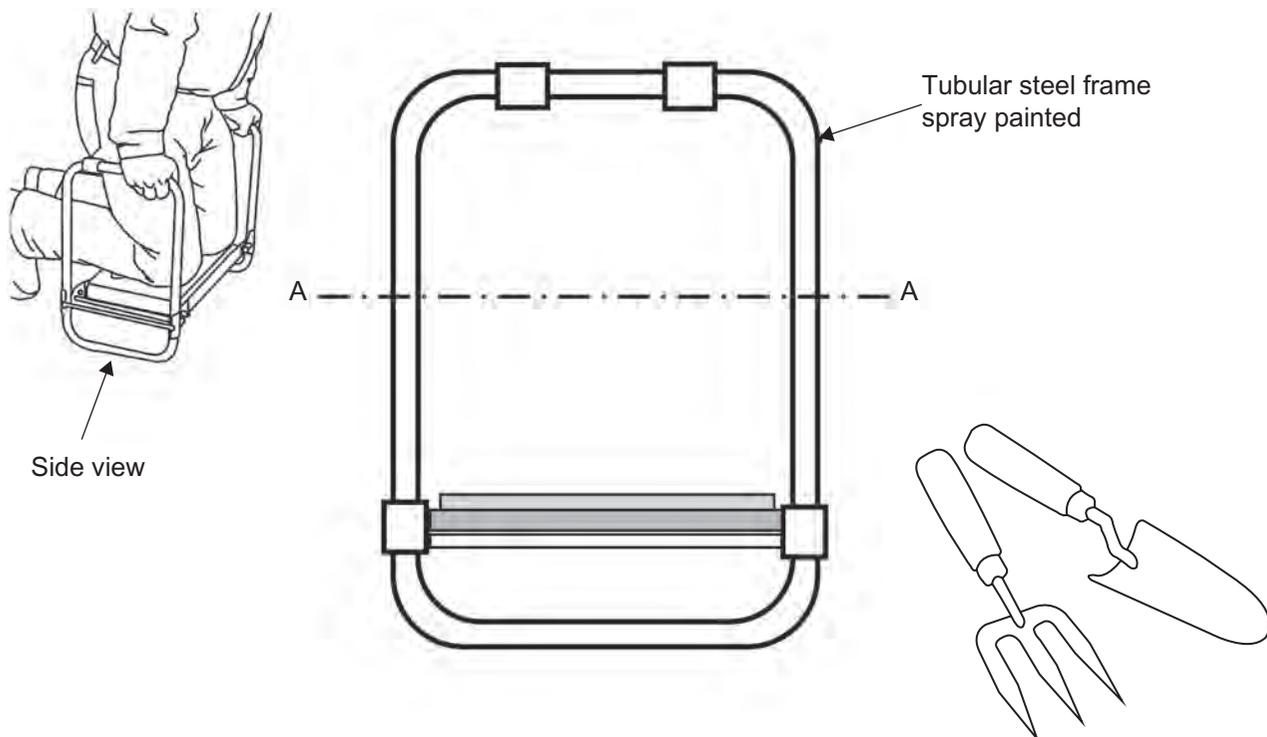

Fig. 6(g)
- (f) CAD, CAM and other ICT systems are widely used in the design and manufacture of many products including the garden kneeler shown in **Fig. 6**.
Explain the use of **two** other ICT systems which could be used in the design and manufacture of the garden kneeler shown in **Fig. 6** (no reference should be made to CAD or CAM systems in your answer). [4]
- (g) **Fig. 6(g)** below shows side views of the garden kneeler. In addition, two commonly used garden tools are also shown which will need to be located on a rack which can be quickly attached to the tubular steel frame and positioned for easy access during gardening work.
- (i) With reference to **Fig. 6(g)** above and using the blank A3 pro forma provided (**answer numbers 6(g)(i) and (ii)**) produce annotated sketches of a suitable design that will enable the user to quickly adjust the height of the tubular steel frame (at the position shown in **Fig. 6(g)** (A–A)) in order to provide a more comfortable height. Show how your design prevents damage to the paintwork as the frame moves up or down. [4]
- (ii) With reference to **Fig. 6(g)** above and using the blank A3 pro forma provided (**answer numbers 6(g)(i) and (ii)**), produce annotated sketches of a suitable storage rack containing the two garden tools secured to the tubular steel frame of the garden kneeler. Show how your design fulfils the following requirements: